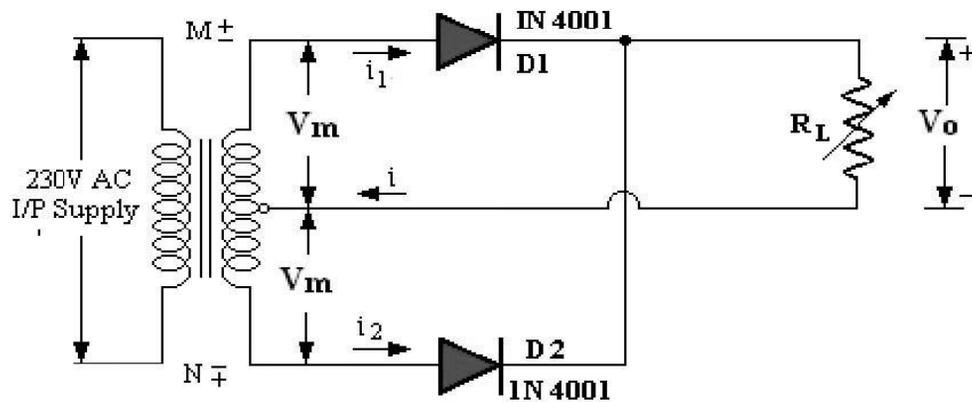

Figure 8.1: Full wave rectifier (FWR) without filter
1. Connect the circuit for Center Tapped Full wave rectifier on breadboard as shown in Figure 8.1